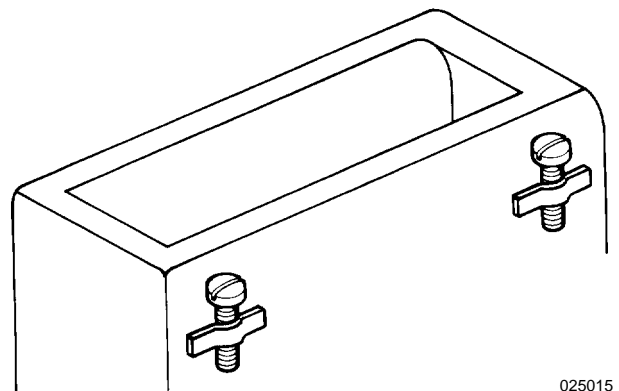

Figure 15. Typical Shield Cover
- . **Shield Cover.** A shield cover is a variation of a backshell in that it protects the connections at the rear of the connector (Figure 15).